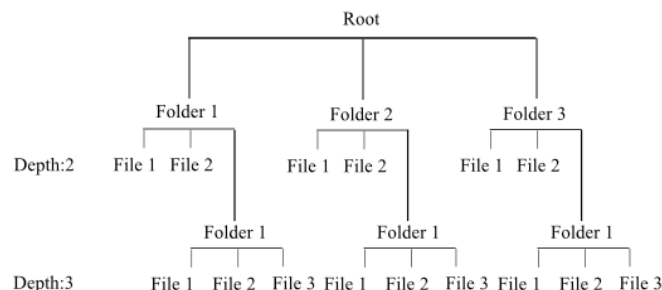

Figure 1
- **“All MAT files in folder tree (depth: 2)”**: load all MAT files located in the subfolders of a root folder (Fig.1). You will be asked to select the root folder. **NOTE** This can be convenient in case the user selected the option “Processing → Options → Split proc. data into .mat files for → Sessions” (see section “Before running the processing – Application MAT files generation” for more information).
- **“All MAT files in folder tree (depth: 3)”**: load all MAT files located in a subfolder of the subfolders of a root folder (Fig.1). You will be asked to select the subfolder.